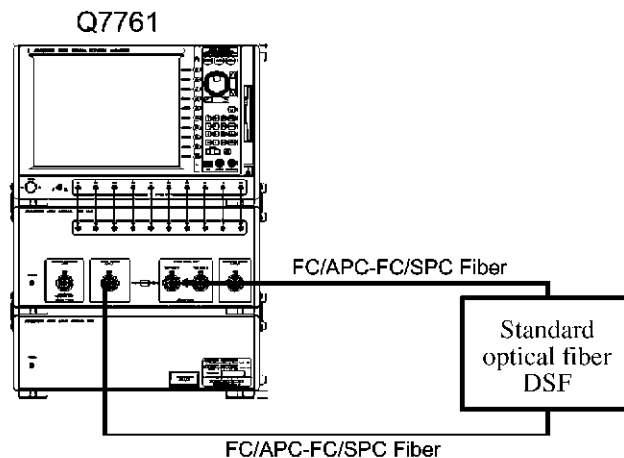

Figure 2-16 Connection for Wavelength Dispersion Measurement Accuracy Test
1. Connect equipment as shown in Figure 2-16.